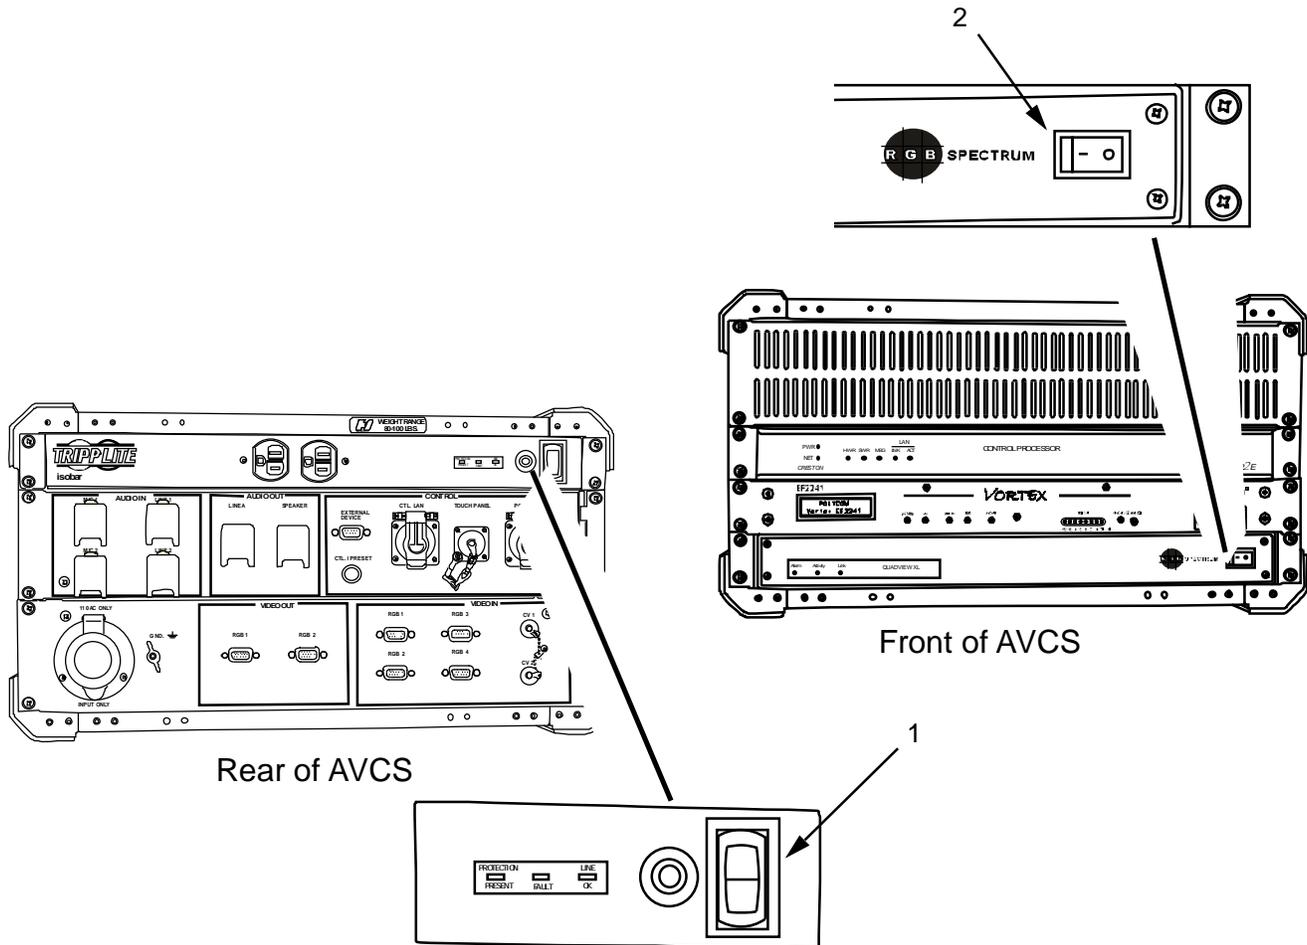

Figure 1: Main and Secondary Power Supply Switches.
1. Set the Main Power supply ON/OFF switch (Figure 1, Item 1), located on the top right rear of the AVSC, to 'ON'. Ensure the Secondary Power Supply Switch (Figure 1, Item 2) always remains in the 'ON' position.